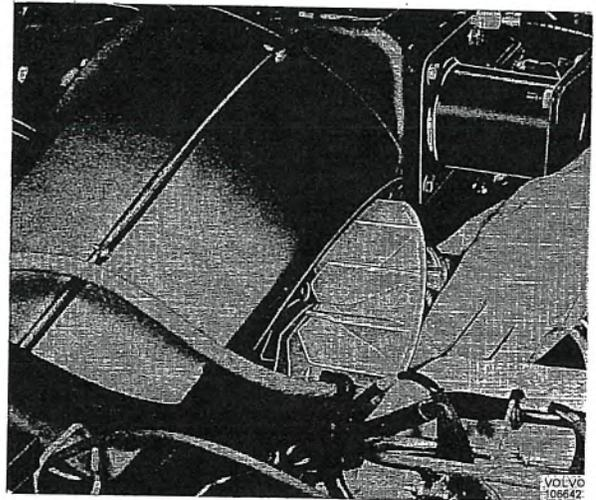

Fig. 8-51. Taking out fan motor
4. Remove the fan motor from the heater (Fig. 8-51). (In certain cases, the rocker arm casing may have to be removed in order to get out the fan motor. In this case cover the rocker arm mechanism with some kind of protection to prevent impurities, etc., from getting in.)